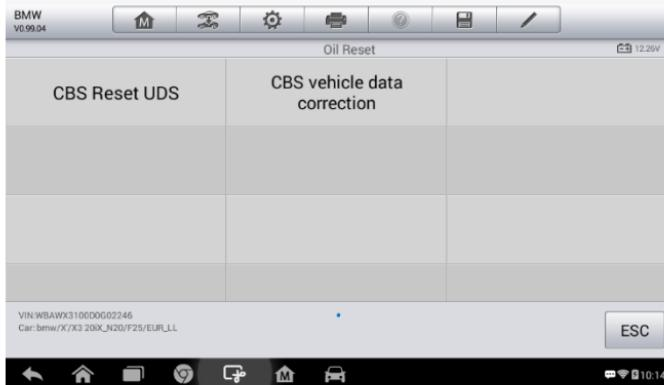

Figure 5-1 Sample Oil Reset Function List
3. Tap the function you want in the Oil Reset function list, the list may vary for different vehicles being tested (Figure 5.1).